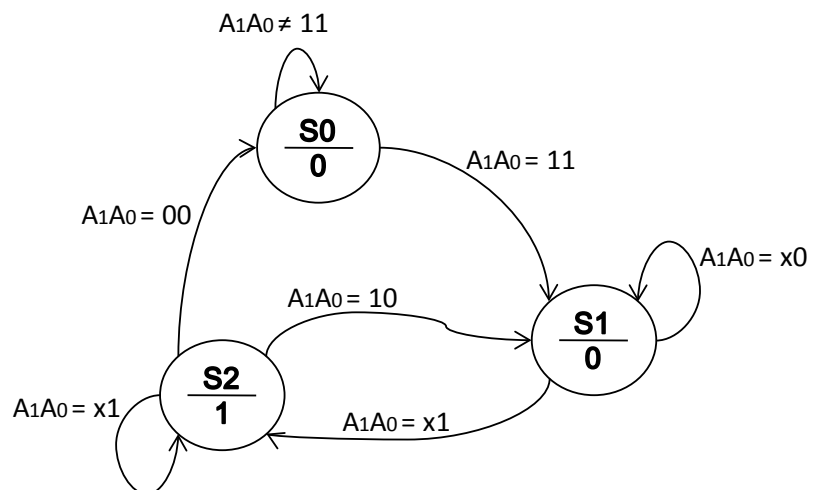

Figure 3
B) In the figure 3 you can see the state transition graph of a different circuit. This circuit has the following inputs and outputs: